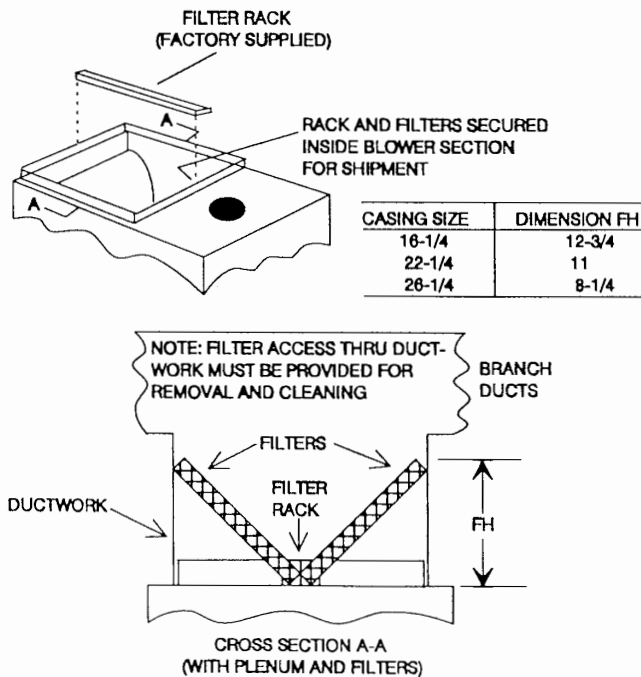

FIGURE 8 - DOWNFLOW FILTERS
Downflow furnaces typically are installed with the filters located above the furnace, extending into the return air duct. An alternate method is detailed in the Filters (Upflow/Horizontal) sections, Step 4. The branch duct must attach to the vertical ductwork above the filter height (FH) in Figure 8. Refer to dimensions in Figure 8 for proper installation.